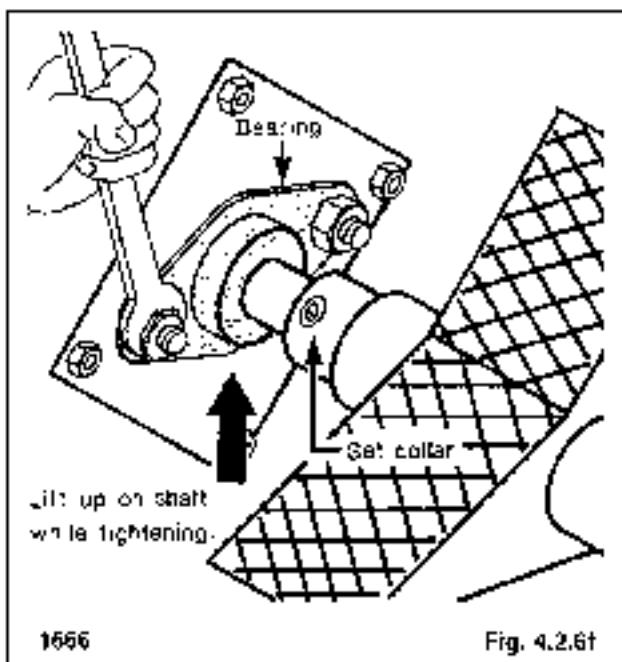

Fig. 4.2.6f
- 4 Install the complete foot pedal assembly in the loader lift up on the foot pedal shaft as the shaft bearing nuts are tightened (fig. 4.2.6f).